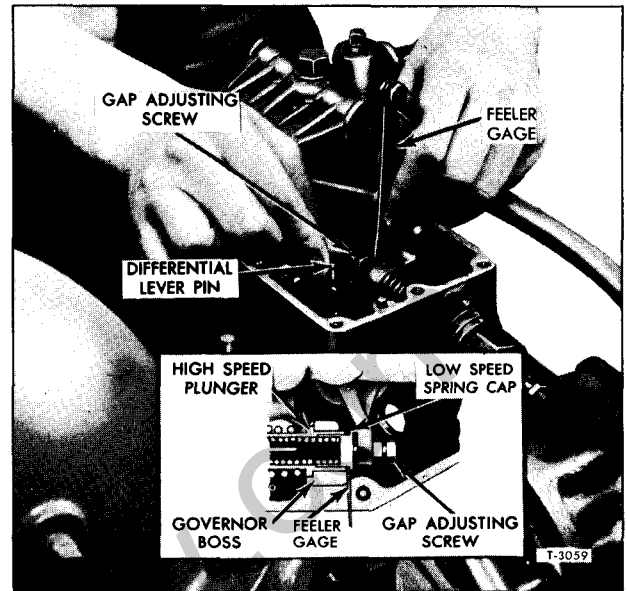

Figure 5—Low Speed Spring Gap Adjustment
6. Check the gap between the low speed spring cap and the high speed spring plunger with a 0.0015" feeler gauge. If the gap setting is incorrect, reset the gap adjusting screw (fig. 5).